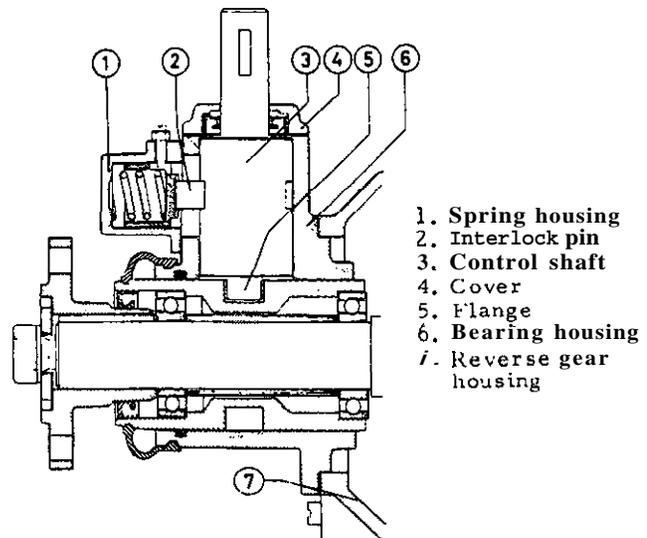

Fig. 3. Rear section of reverse gear
2. Remove the bolts which hold the bearing housing (6, Fig. 3) to the housing (7). Pull the bearing housing aft several millimeters (this is facilitated by carefully engaging the lever), insert a knife between the sealing surfaces and loosen the basket **carefully so that** it remains in contact with only one of the sealing surfaces.
- a. Remove the spring housing (1, Fig. 3) and lift out the locking plunger (2).
- b. Remove the cover (4) without pulling it off the shaft.
- c. Lift the shaft (3) with cover (4) from the housing and turn the shaft 180° (half a turn). Turn also the flange (5) half a turn and fit the shaft.